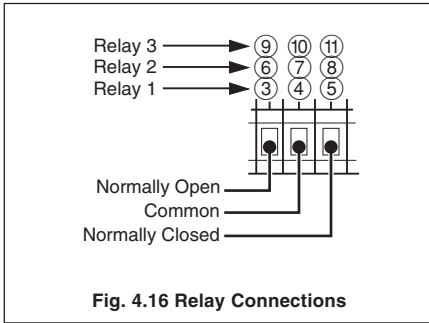

Fig. 4.16 Relay Connections
4.12 Relay Connections – Fig. 4.16